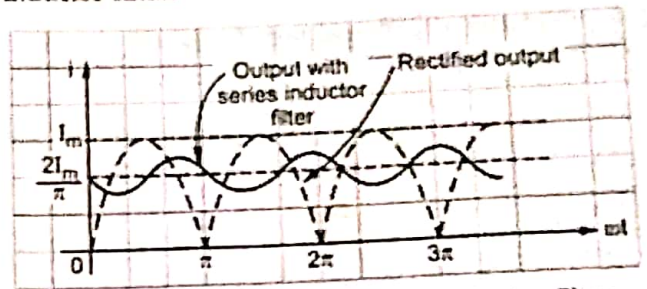

Fig. Q.29.2 Waveforms of series Inductor filter
- The Fig. Q.29.2 shows the waveforms with series inductor filter.